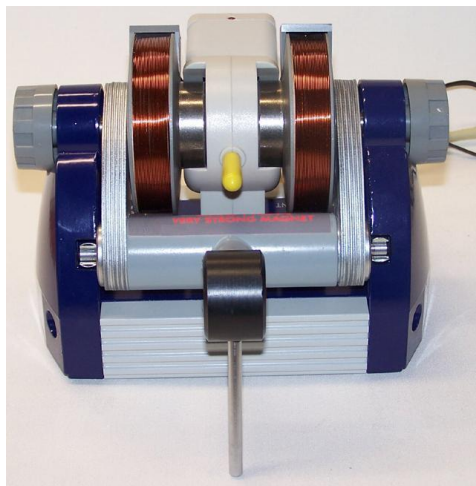

Fig. 2: Base unit with glycerin sample inserted
- Insert the glycerin sample (yellow cap) into the sample receiver (see Fig. 2).